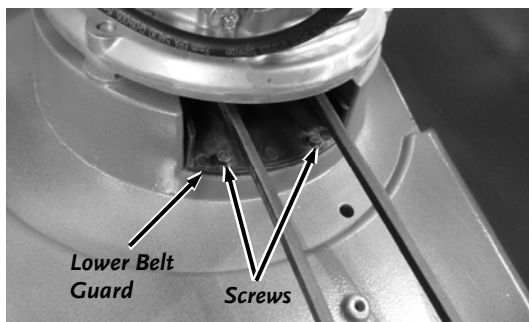

Figure 23
4. Remove the two Screws from the top side of the lower Belt Guard with an 8mm Wrench (Figure 23).